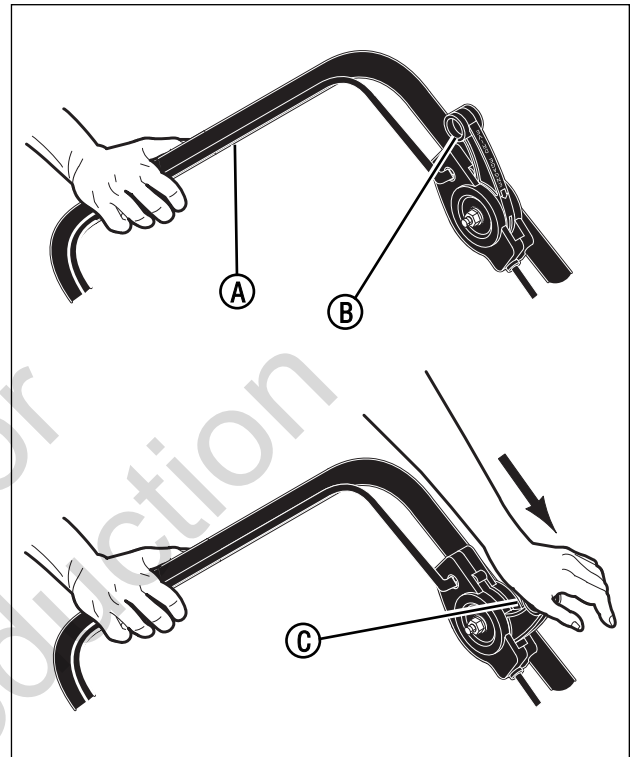

Figure 17: Operating the front wheel drive system
1. Hold the engine stop lever in the Operating Position (A, Figure 17).
2. Push the drive lever (B) completely forward (C). When the drive lever clicks, release the drive lever. The drive system is now engaged.
4. *Self-Propelled Models Only* - Make sure the drive lever is in the disengaged position (B, Figure 17).